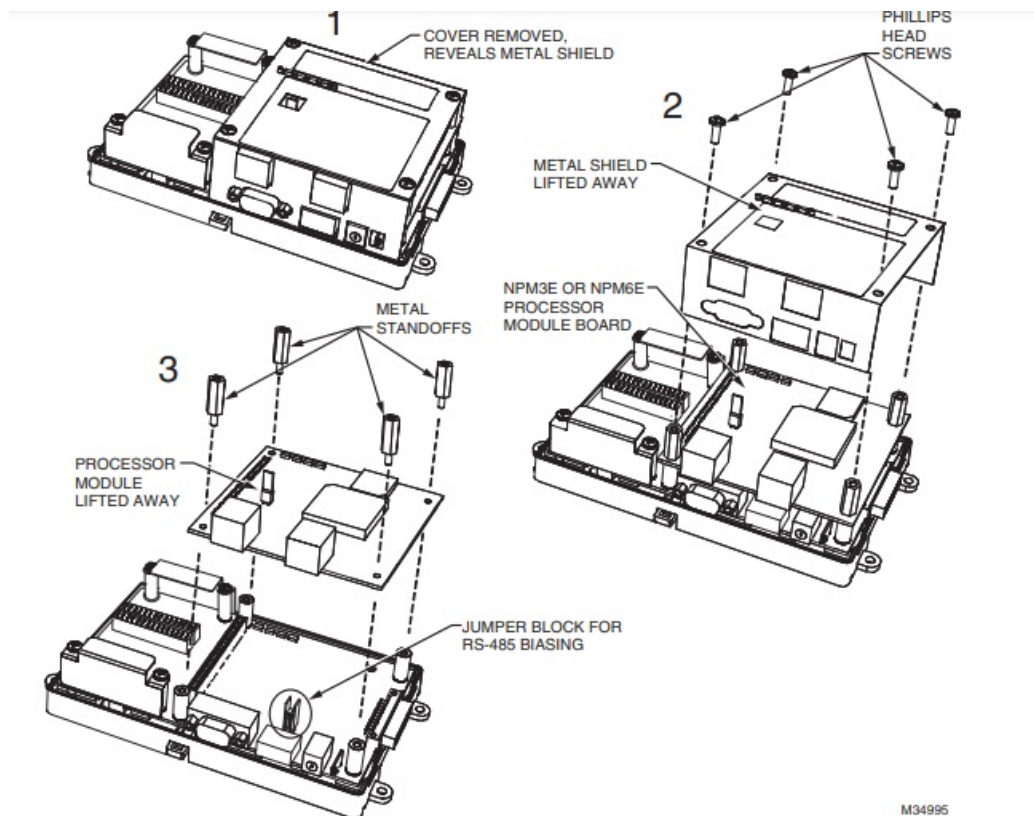

Fig. 7. Basic stages of controller disassembly.
7. Set the processor module board aside. Note the jumper block on the base board behind the RS-485 port (see bottom of Fig. 7).
1. Carefully replace the processor module board onto the 50-pin connector, with its corner mounting holes aligned on the four lower standoffs. Press down on the connector to fully seat the board. See Fig. 7 on page 11.